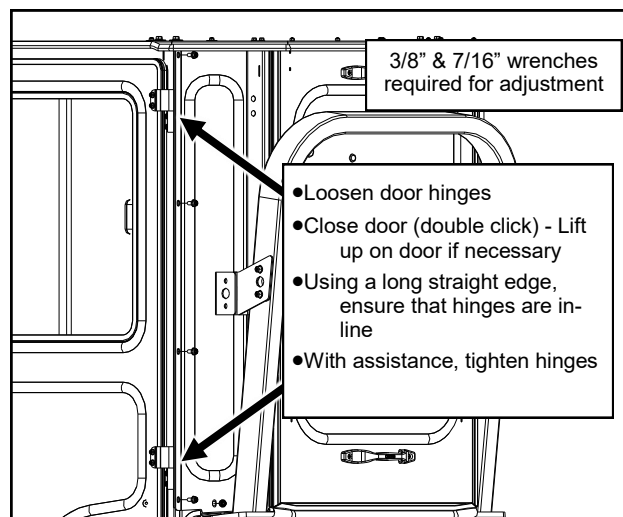

Fig. 19.3c (Door Hinge Adjustment)
- Adjust the hinges located at the rear of the door - See Fig. 19.3c